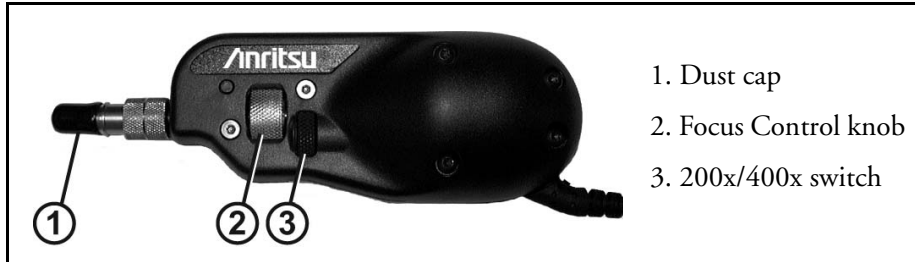
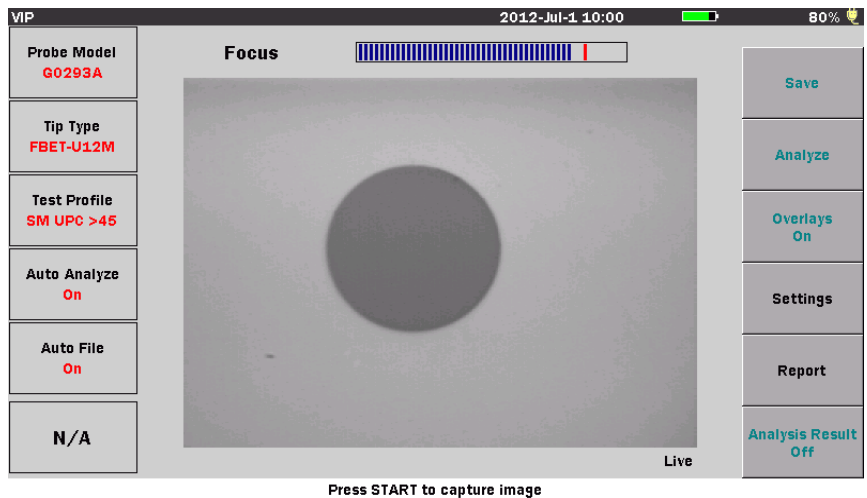

Figure 11-2: Video Inspection Probe
Figure 11-8: VIP Screen – Live Mode
1. Remove the dust cap (see item 1 in Figure 11-2 on page 11-3).
5. Use the **200x/400x switch** (see item 3 in Figure 11-2 on page 11-3) to set the desired magnification rate. The example shown in Figure 11-8 has the magnification rate set to 400x.
6. Use the **Focus Control knob** (see item 2 in Figure 11-2 on page 11-3) to adjust the focus of the image, if the image is not in clear focus.